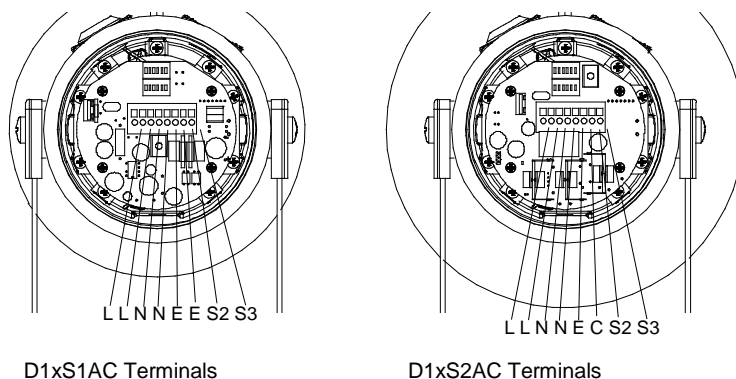
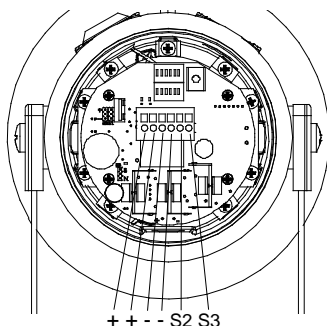

Fig. 6 AC Terminals
Fig. 8 DC Terminals
- Fit an M20x1.5 suitably rated cable gland or conduit entry into the hole in the enclosure and connect the field wiring to the appropriate alarm horn terminals as shown in fig. 6 (AC) or fig 8. (DC). The power supply terminals are duplicated so that units may be connected in parallel. An end of line monitoring resistor may be fitted to DC units only (see section 12). If the second and third M20x1.5 and or NPT entries are not used, suitably rated stopping plugs must always be fitted.
Stage one (S1) operation: Simply connect the supply voltage to the L and N supply terminals, (see fig. 6).
Stage one (S1) operation: Simply connect the supply voltage to the + and - supply terminals, (see fig. 8).